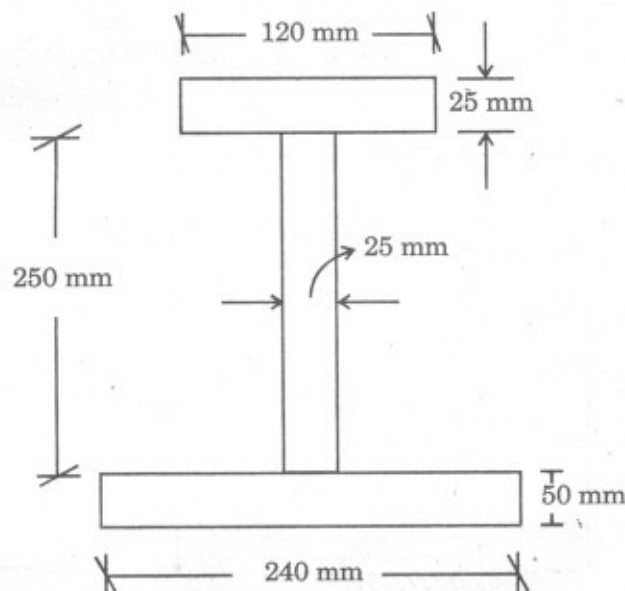

Fig. 3.2
- (b) A simply supported beam of span 6 m and of cross-section as shown in Fig. 3.2, carries a u.d.l. If the permissible bending stresses are 120 MPa in compression and 45 MPa in tension, find safe u.d.l. the beam can carry. [8]